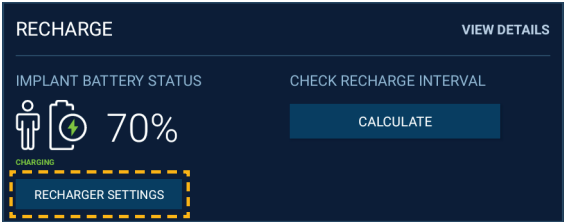

Figure 51. Recharge panel on dashboard
- 1. From the Recharge panel on the dashboard, tap **RECHARGER SETTINGS** to open the Recharger Settings screen (Figure 51).
- 1. From the Home screen (Figure 10) or the Recharge panel on the dashboard (Figure 51), tap **RECHARGER SETTINGS** to open the Recharger Settings screen.